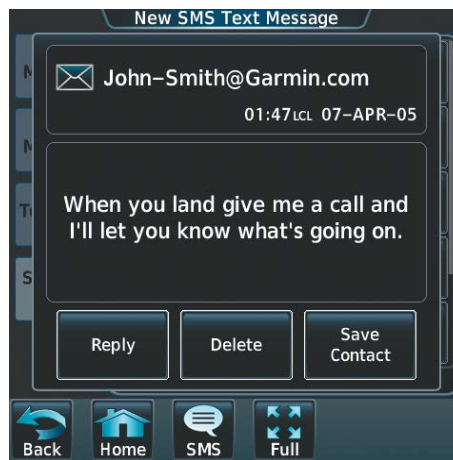

Figure 8-82 New Text Message Contents
- 2) Touch the desired message to display its contents as seen in Figure 8-82.